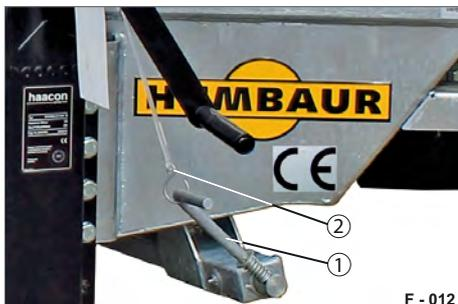

Fig. 16 Screw parking brake secured
- ▶ Fit the hook of the securing cable (Fig. 16/2) over the crank.